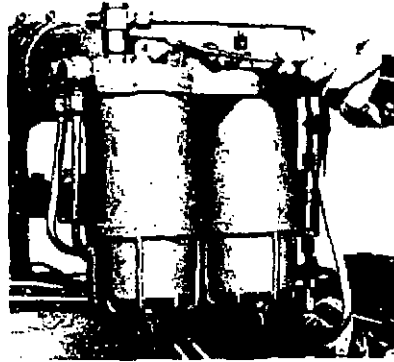

Fig. 22
- (a) Unscrew the vent plug on top of the final fuel filter (see Fig. 22) by two or three turns.